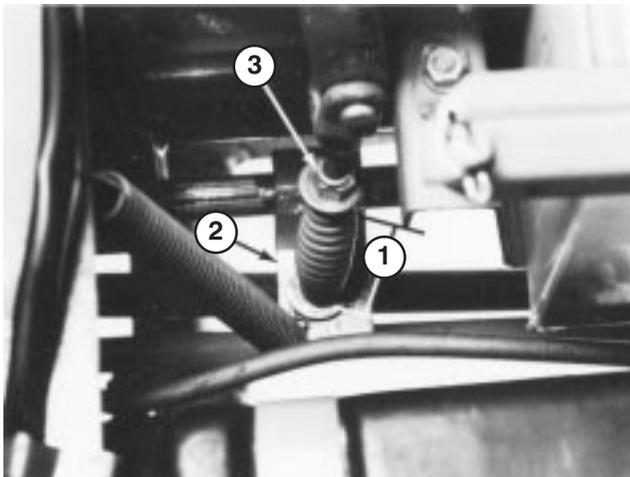

Figure 57
3. Measure length of PTO spring between flat-washers (Fig. 57). There should be a spring length of 3-3/16 inches (81 mm).
4. To adjust, hold head of adjusting screw with wrench (under PTO actuating arm) and turn locknut (Fig. 57).